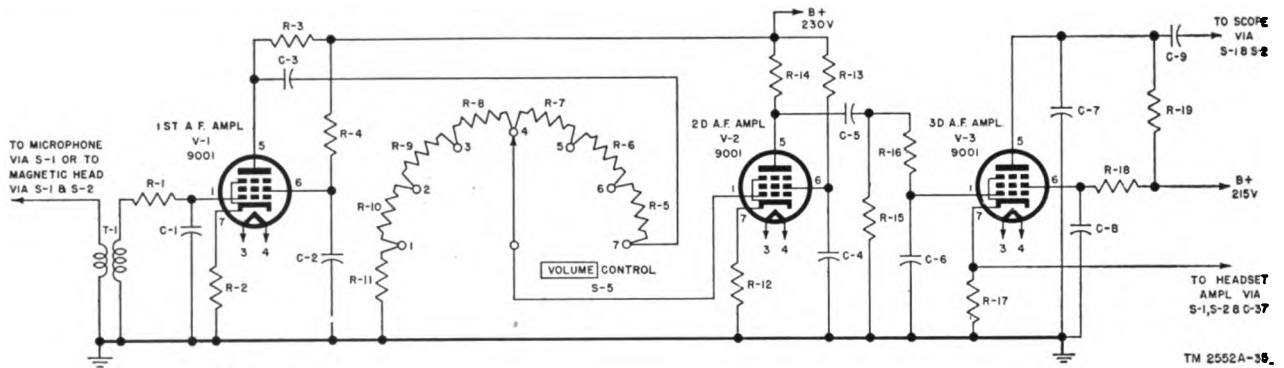

Figure 34. Recorder BC-1323-A, schematic diagram of one amplifier.
a. The three amplifier channels Nos. 1, 2, and 3 are identical and are matched in gain, frequency response, and phase shift. Consequently, one simplified schematic drawing (fig. 34) is used for functional explanation of its circuits.